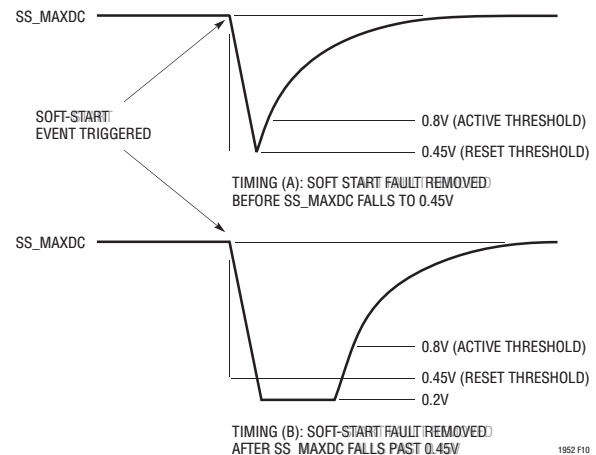

Figure 10. Soft-Start Timing
The LT1952/LT1952-1 have built-in soft-start capability to provide low stress controlled startup from a list of fault conditions that can occur in the application (see Figure 1 and Figure 10). The LT1952/LT1952-1 provide true PWM soft-start by using the SS_MAXDC pin to control soft-start timing. The proportional relationship between SS_MAXDC voltage and switch maximum duty cycle clamp allows the SS_MAXDC pin to slowly ramp output voltage by ramping the maximum switch duty cycle clamp—until switch duty cycle clamp seamlessly meets the natural duty cycle of the converter. A capacitor C_{SS} on the SS_MAXDC pin and the resistor divider from V_{REF} used to program
It can be seen in Figure 10 that two types of discharge can occur for the SS_MAXDC pin. In timing (A) the fault that caused the soft-start event has been removed before SS_MAXDC falls to 0.45V. This means the soft-start latch will be reset when SS_MAXDC falls to 0.45V and SS_MAXDC will begin charging. In timing (B), the fault that caused the soft-start event is not removed until some time after SS_MAXDC has fallen past 0.45V. The SS_MAXDC pin continues to discharge to 0.2V and remains low until all faults are removed.